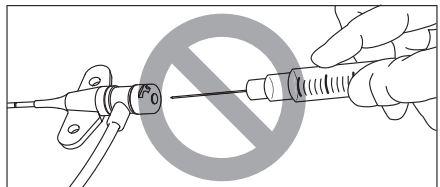

Figure 11
- ⚠ Caution:** Never attempt to insert a needle or a blunt cannula into the seal in back of catheter hub (refer to Figure 11).